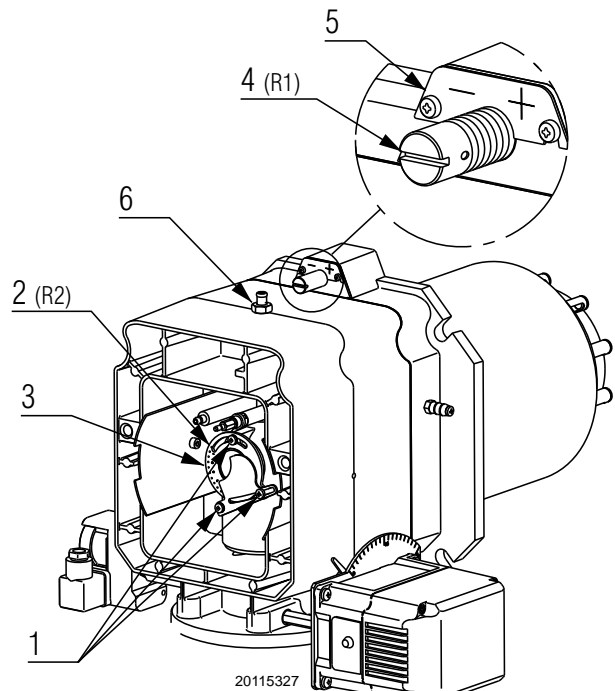

Fig. 17
- Rotate the screw 4)(Fig. 17) until the notch you have found corresponds with the front surface 5) of the flange.
- Loosen the 3 screws 1)(Fig. 17) and rotate the ring nut 2) until the notch you have found corresponds with the index 3).